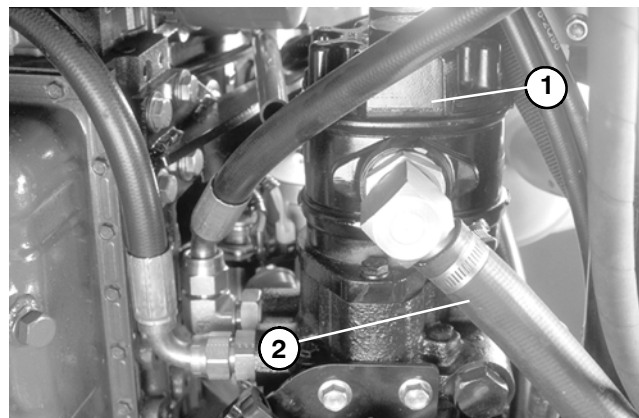

Figure 73
2. Thoroughly clean area around the hydraulic suction hose at gear pump (Fig. 73). Disconnect suction hose and let hydraulic fluid flow into drain pan. Reinstall hose when hydraulic fluid stops draining.